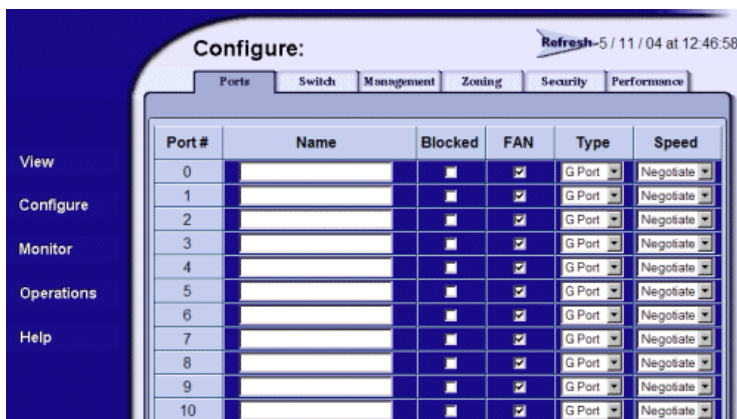

Figure 42: Configure Ports tab
1. At the Switch View, select **Configure > Ports**. The Configure Ports tab displays (Figure 42).